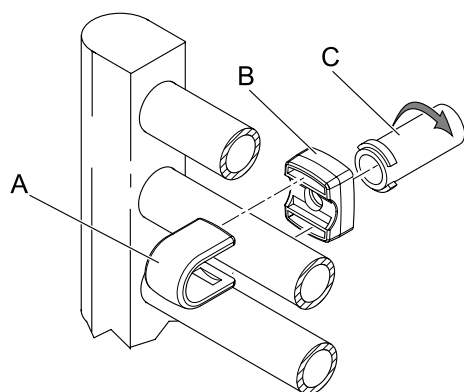

Fig. 5
3. Carefully assemble the four mounting collars (A) and inner bracket sleeve (B) to the towel rail and secure in the positions using the Mounting collar screws (C) as shown in Fig. 5. Do not fully tighten the screws as further adjustments may be required at a later stage. The brackets should be placed on the bottom and second from top rails and separated by a distance of approximately 360mm. Ensure the inner bracket sleeves are facing directly backwards.